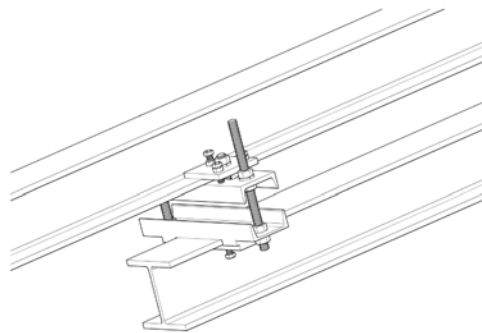

Figure 3
10. Install the  $\frac{3}{4}$ " threaded rods into the clamps on the assembly and the adjustable clamps on the supporting beam or truss as shown in figure 3. Adjust the position of the adjustable clamps as required to align the treaded rods with the clamps on the Mat Storage Assembly. Install nuts and washers on the threaded rods.